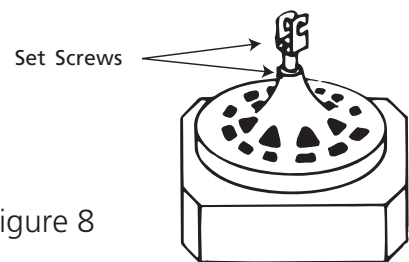

Figure 8
2. Back out the set screw in the neck of the motor housing and the hanger bracket so the pipe can be screwed in. Screw the pipe into the fan until tight (At least 4-1/2 turns). Feed the wire through the hanger bracket and screw the hanger bracket onto the pipe until tight (At least 3 turns). Then use pliers to tighten both the hanger bracket and the pipe together. Tighten the set screw in the motor housing with pliers. Securely tighten the set screw in the hanger bracket. See Figure 8.